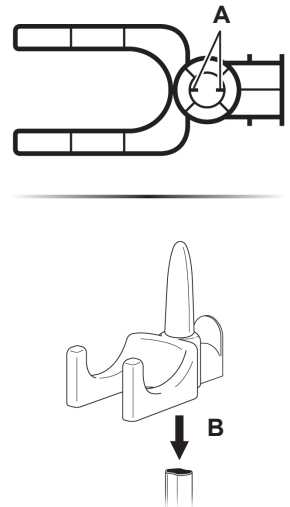

FIGURE 4
1. Look at underside of Pole Top, and locate two guide ridges (FIGURE 4-A).
3. Slide Pole Top onto SECTION 1 of Telescopic Pole (FIGURE 4-B). Press down firmly until Pole Top fits securely in place.